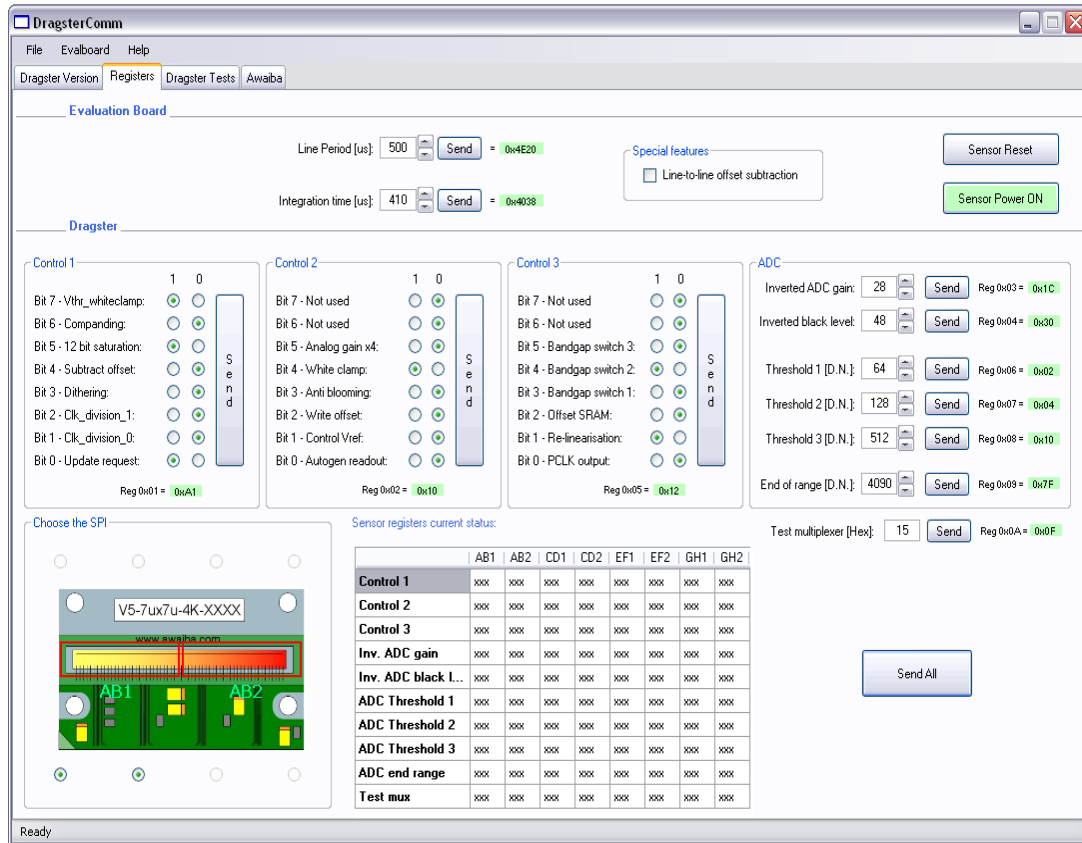

Figure 18: ISAC - Registers Configuration
- Send registers in the “Registers” tab (figure 18)